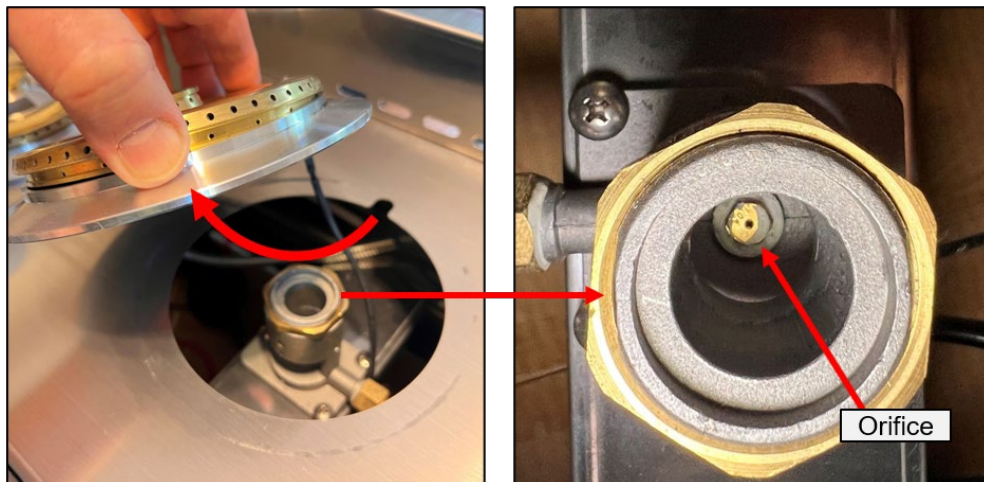

Figure 25 Remove Burner
5. Use a shallow 6mm socket and handle to reach into the burner opening and carefully remove the brass orifice screwed into the end of the valve stem (Figure 25)